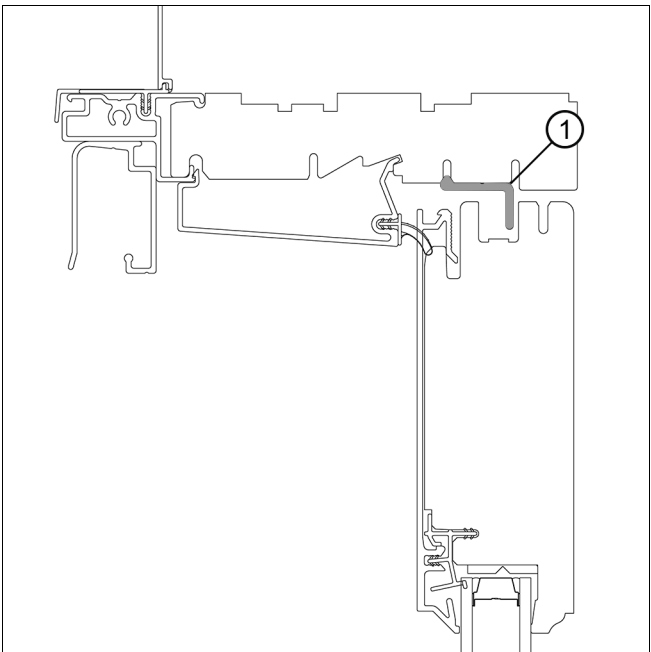

Figure 43
4. While holding the operator panel in place (tipped to the interior) insert the guide track in the groove in the top of the panel as shown. See Figure 42 and Figure 43.